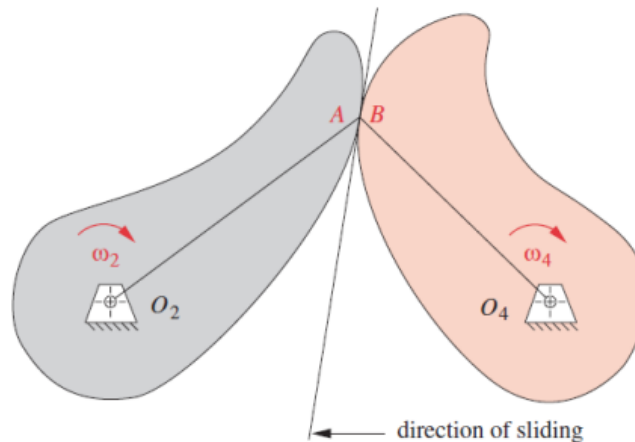

FIGURE P8-1
- *8-1 Figure P8-1 shows the cam and follower from Problem 6-65. Using graphical methods, find and sketch the equivalent fourbar linkage for this position of the cam and follower.